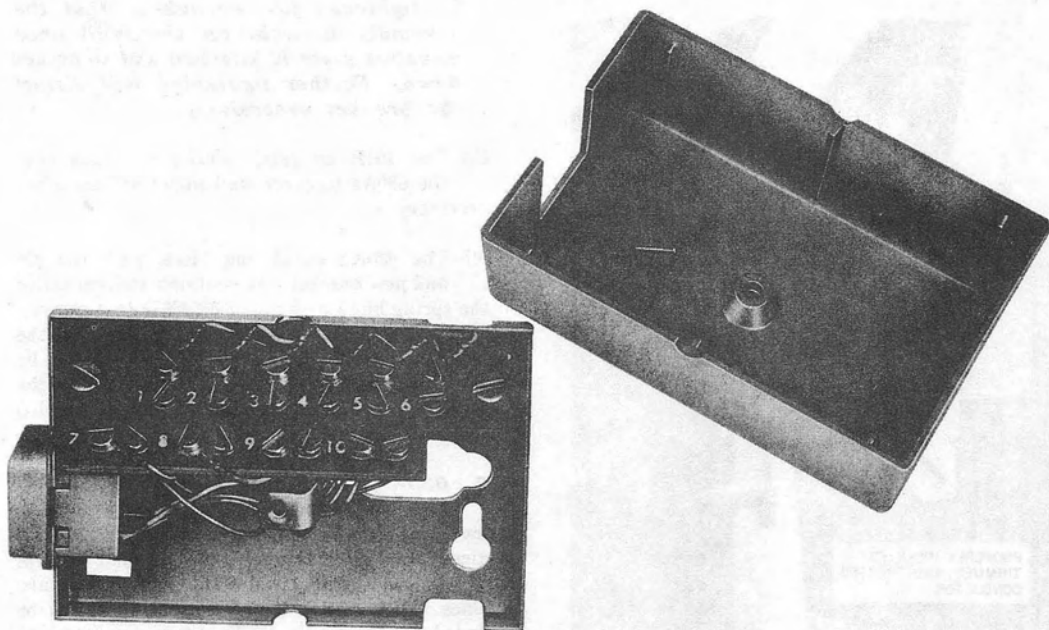

Fig. 10—635A (MD) Connecting Block
2.13 The **635A (MD)** connecting block contains a 650-type, 8-contact modular jack which is wired to eight screw terminals (Fig. 10). The 8-position plug on the series equipment is plugged into the modular jack, and the line and controlled station connections are made at the screw terminals. When a plug is not inserted, lead 1 is shorted to lead 4, and lead 5 to lead 8. Insertion of the plug removes the shorts and puts leads 1 and 4 and 5 and 8 in series with the series or exclusion equipment (Fig. 11). In this mode, continuity to the downstream equipment must be maintained through the series or exclusion equipment.